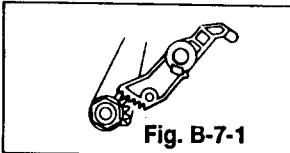

Fig. B-7-1
① Align the Gear of Take-Up Arm with the Gear of Take-Up Lever(Fig. B-7-1).